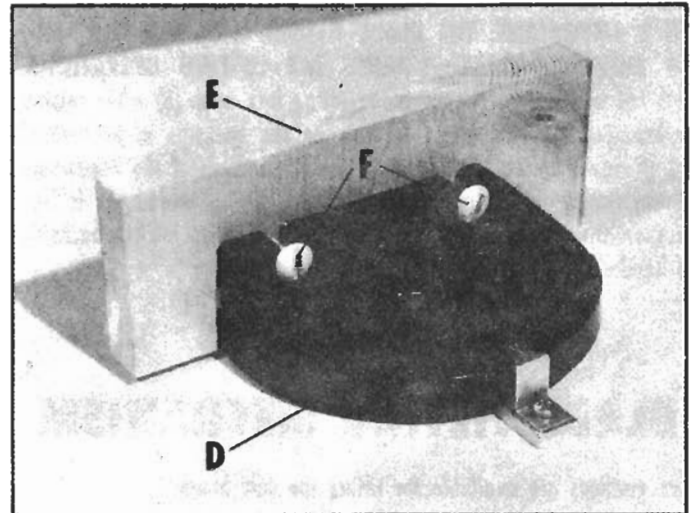

Fig. 32
It is sometimes desirable to have the work control surface of the miter gage body (D) Fig. 32 longer or higher than the casting. To do this a wood facing can be attached as follows:
2. Attach the wood facing (E) Fig. 32 to the body using two #12 round head wood screws (F) as shown in Fig. 32.